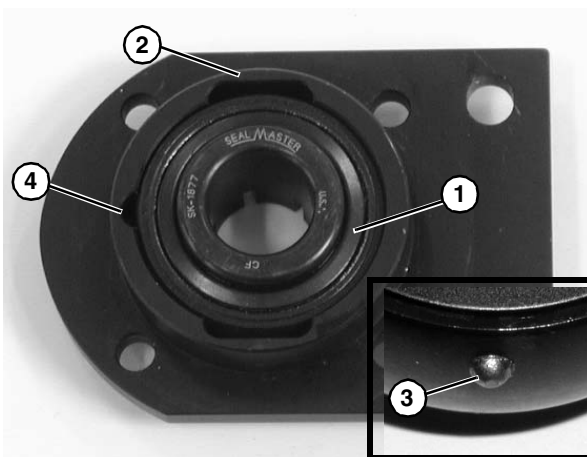

Figure 88
2. Insert bearing (**Figure 88, item 1**) into housing slot (**Figure 88, item 2**). Locate anti-rotation nub (**Figure 88, item 3**) to align with slot (**Figure 88, item 4**), and twist bearing into housing.